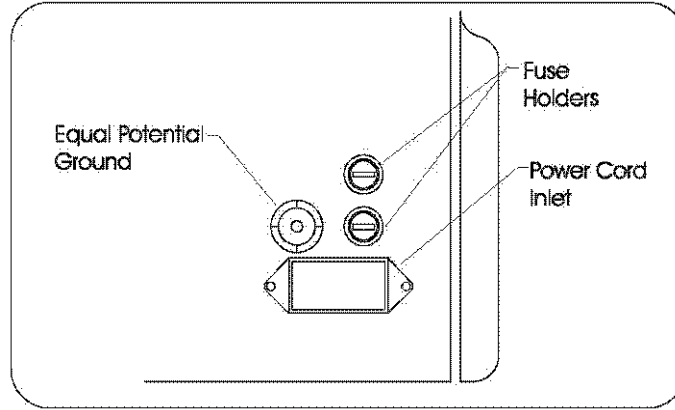

Figure 4-3: Targis Control Unit Rear Cover
1. Using a flat screwdriver, remove the fuse holder caps (*figure 4-3*).